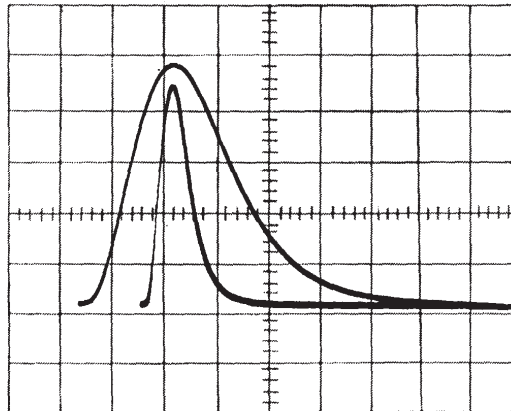

Figure 19 AMP OUTPUT Showing a unipolar Pulse
3. Observe the AMP OUTPUT pulse on the scope. For each of the shapings (2.0 μ s and 0.5 μ s), the unipolar pulse should appear as in Figure 19.